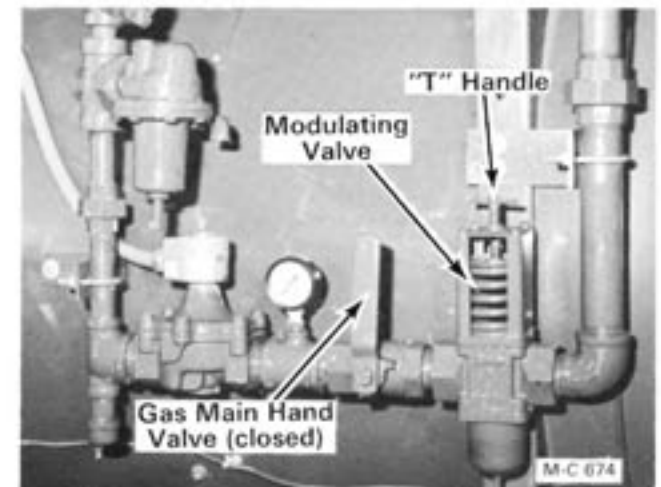

Figure 20 - LP Gas
2. Turn the "T" handle on the modulating valve IN to INCREASE temperature and OUT to DECREASE temperature, see Figure 20. There is a temperature gauge on the side of the control cabinet for each burner.